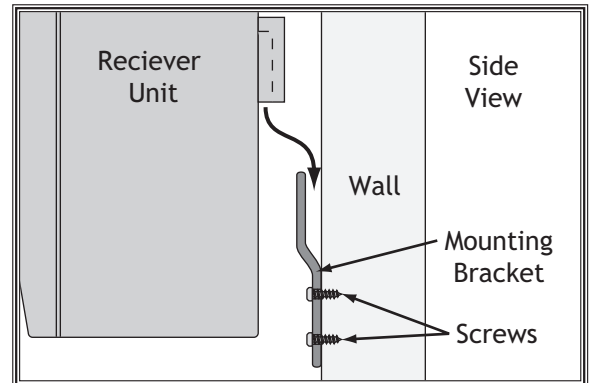

Figure 3. Mounting.
2. Attach the mounting bracket in the chosen location using the included screws, as shown in **Figure 3**. If you are mounting the bracket to the dust collector frame, you may have to use alternative mounting hardware.